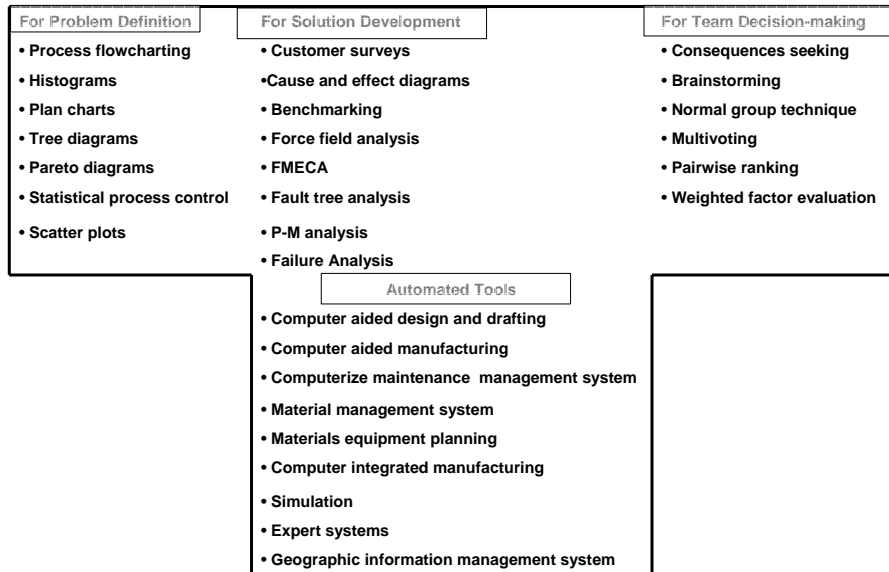

Figure 8-4 Tools and Techniques for TPM
- ❖ The use of tools and techniques for problem identification, definition, solution, and team decision making are shown in Figure 8-4